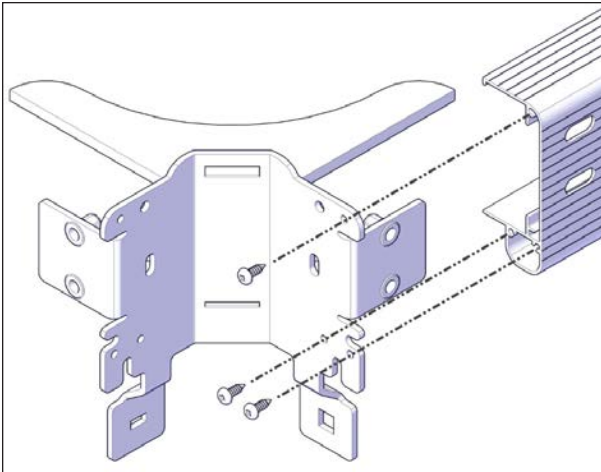

FIGURE 41: CORNER BRACKET INSTALLATION
5. Insert the inner corner brackets in both ends of the C- channels remaining. Use the provided Robertson sheet metal #8 x 3/4 in. screws on the inside holes Figure 41.